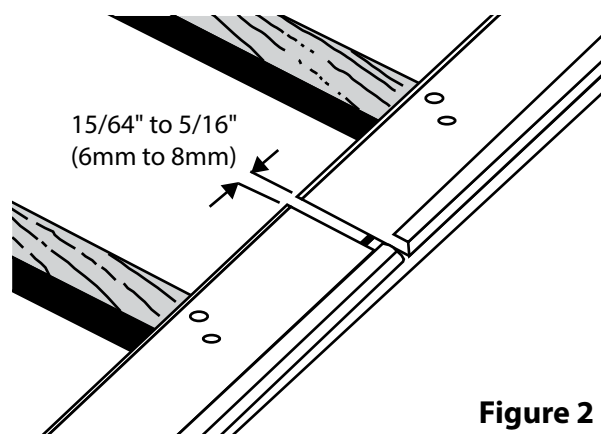

Figure 2
4. Place the next section of Dry Verge into position leaving an expansion gap of between 15/64" to 5/16" (6mm and 8mm) (as shown in Figure 2).